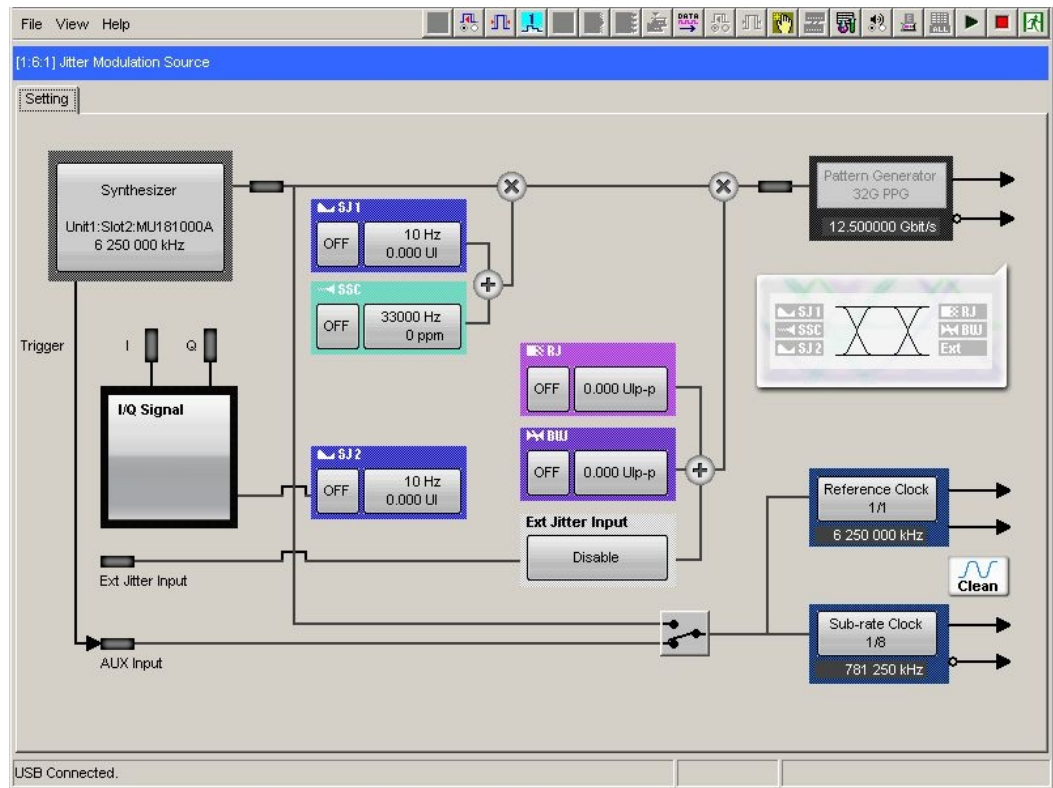

Figure F.5-3 Setting MU181500B's AUX and Reference Clock
- 6, 7. Use coaxial cables (applicable part, 0.8 m, APC 3.5 mm connector) to connect MU181500B's **Reference Clock Output** connectors respectively with the **Doubler Input** connector of each MP1825B No.1 and 2. Then, connect MP1825B's **Doubler Output** and **Clock Input** connectors with the semi-rigid coaxial cable that comes with MP1825B. After that switch MU181500B's AUX clock input signal to **AUX Input** and set the Reference Clock to **1/1**. (Figure F.5-3)
- 6, 7. Use coaxial cables (applicable part, 0.8 m, APC 3.5 mm connector) to connect MU181500B's **Reference Clock Output** connectors respectively with the **Doubler Input** connector of each MP1825B No.1 and 2. Then, connect MP1825B's **Doubler Output** and **Clock Input** connectors with the semi-rigid coaxial cable that comes with MP1825B. After that switch MU181500B's AUX clock input signal to **AUX Input** and set the Reference Clock to 1/1. (Figure F.5-3)